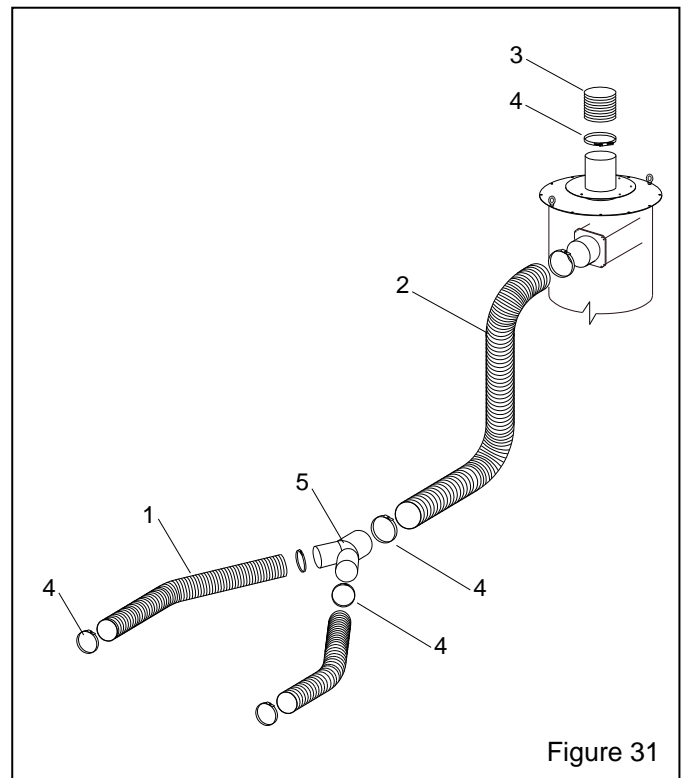

Figure 31
9.2 Flex Hose & Wye Adaptor, Figure 31